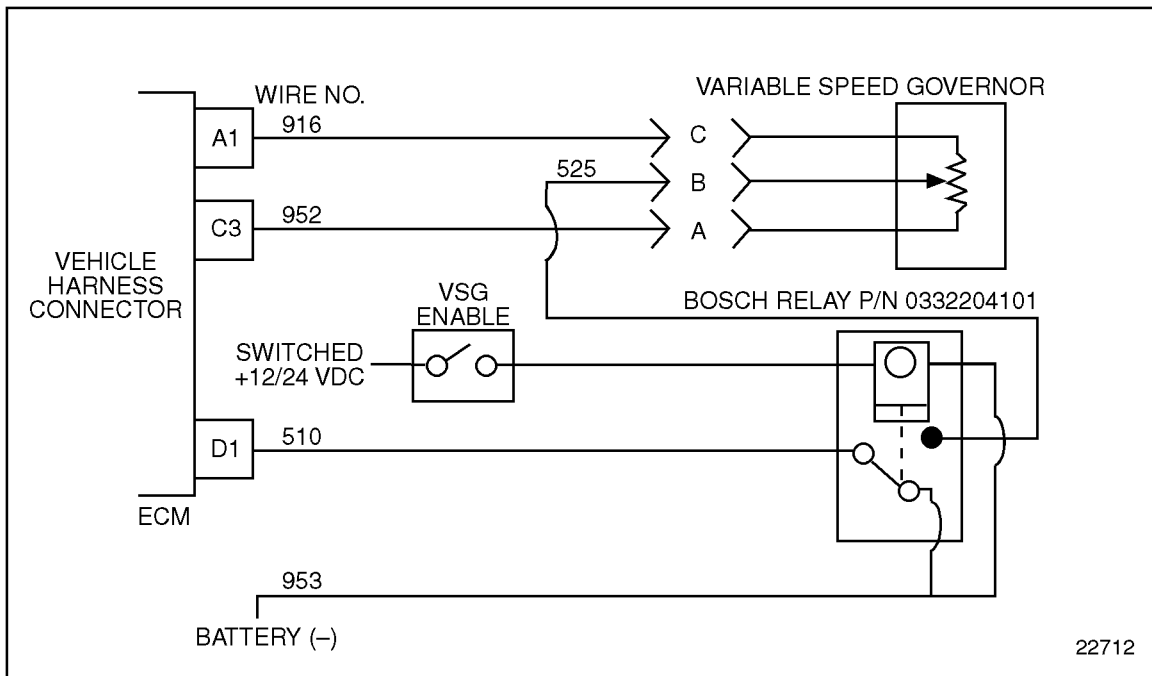

Figure 11-4 Variable Speed Governor Circuit
4. Measure resistance between sockets A (return #952) and B (signal #525) on the hand throttle sensor harness connector. For VSG circuit, see Figure 11-4.
1. Install a jumper wire between sockets A and B of the hand throttle sensor harness connector. See Figure 11-4.